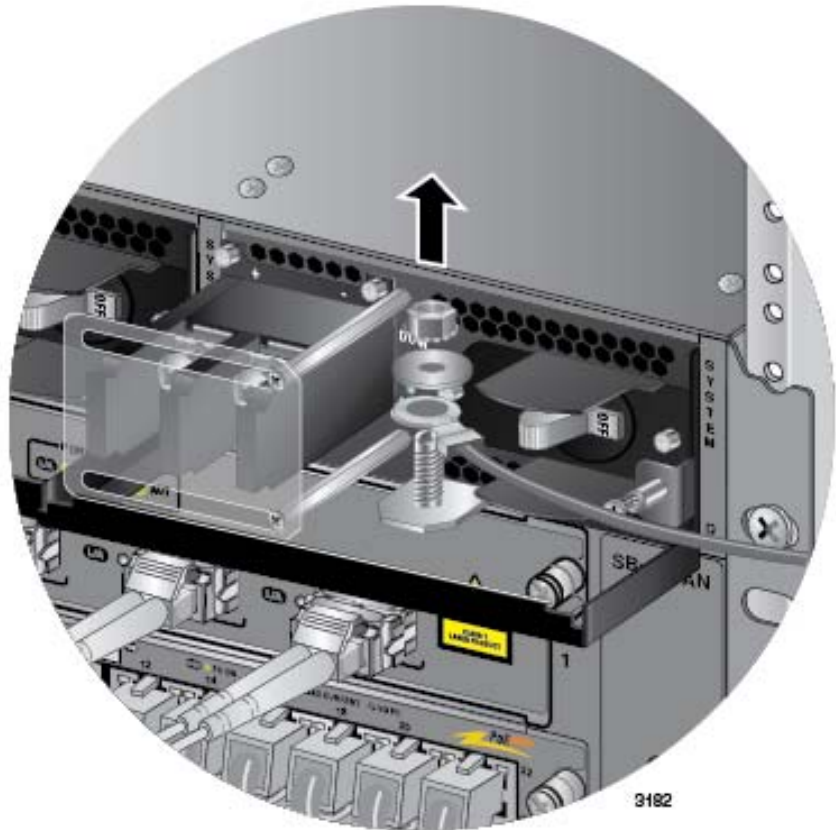

Figure 178. Removing the Grounding Wire
9. Use an 8 mm wrench to remove the grounding wire from the grounding post. Refer to Figure 178 on page 301.